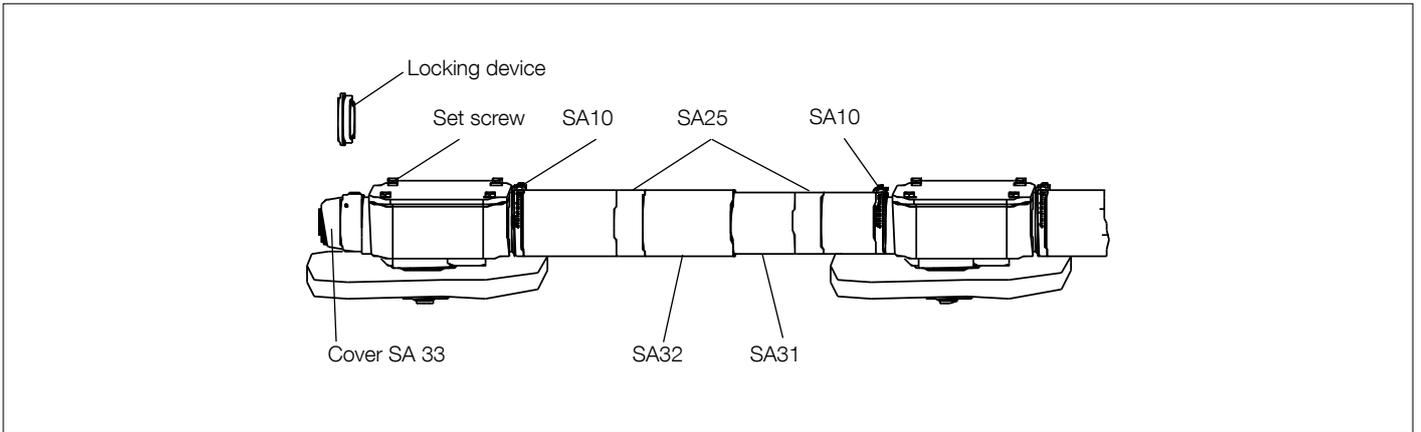

Fig. 42.
7. Push the two protective tubes on the bevel gears and clamp them with the hose clips SA10; see Fig. 42. Apply the self-adhesive information plates SA25 around the tubes at about the middle of the tube length.